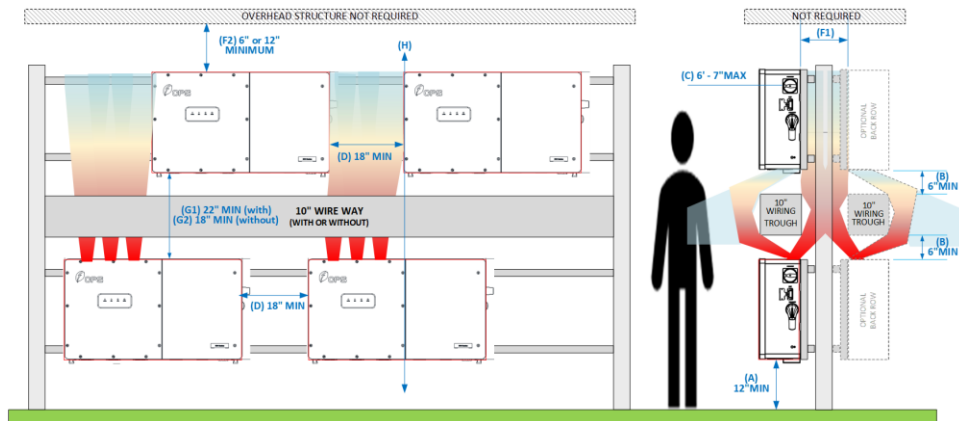

Figure 3-4a
See Figures 3-4a, b, and c; the letters for the items listed below correlate to those shown in Figures 3-4a, b, and c. The distances between the inverters or the surrounding objects should meet the following conditions:
- If the inverters are stacked and meet this (C) requirement, baffles MUST be installed *unless* the inverters are staggered per Figure 3-4a. This configuration also allows ease of conduit routing without a wire-way.
- This dimension depends on if the inverters are stacked and staggered (Figure 3-4a) or not.
- G1. In the case of a wire-way installed between the stacked inverter, the clearances **MUST** meet (B) and (C) requirements above. For a 10 in wire-way, this would be a 22 in minimum.